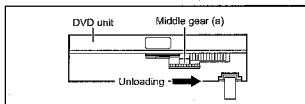

Fig. 5-2a
- (1) Unplug the power cord plug from the power outlet.
- (2) Remove the top cover and front panel assembly. (Refer to the disassembly procedure and perform the disassembly of the major parts before removing)
- (3) Turn the Middle gear (a) by hand to open the disk tray. (See Fig. 5-2a)